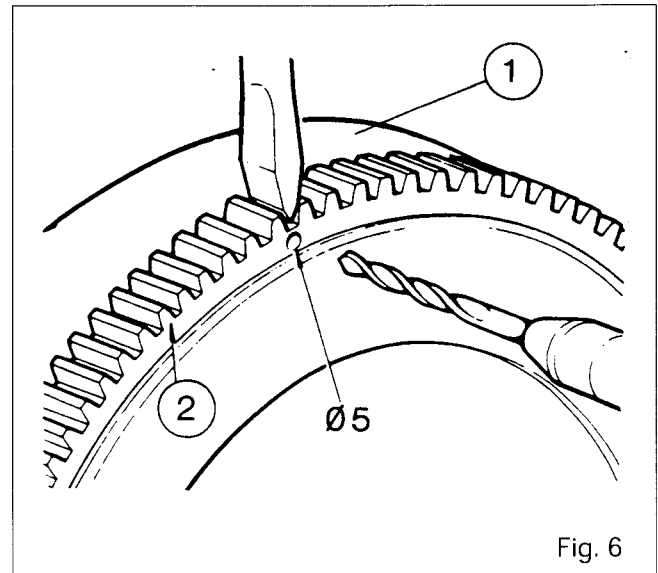

Fig. 6
2. Drill a hole (5 mm dia., 16 mm deep). Split the ring gear with a chisel, as shown in Fig. 6.